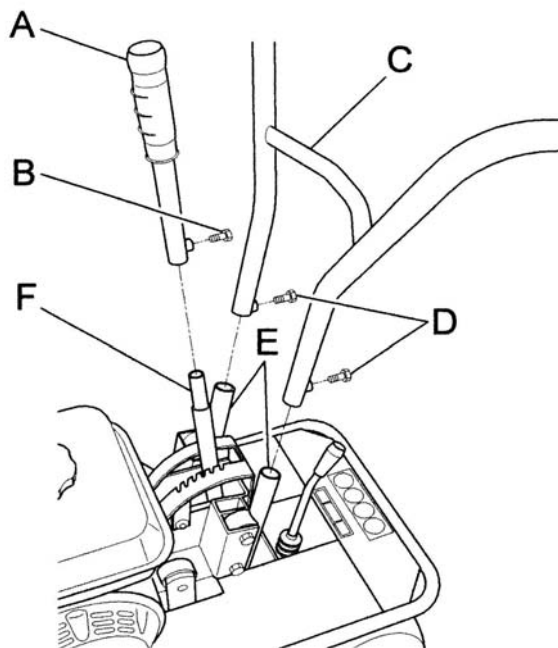

Figure 3
- Lift the handlebar (Fig. 3 Rif. C) and insert it in the supports shown in Fig. 3 rif. E. Select the required cutting height and secure the setting using the screws provided (Fig. 3 ref. D).
- Fit the end part of the cutting height adjustment lever (Fig. 3 Ref. A) into its relative support (Fig. 3 ref. F) and secure using the screw provided (Fig. 3 Ref.B).
During operation the lawn and turf are cut into strips. Should the cutter's wheels skid during use it is advisable to adjust the cutting height using the special lever (Fig. 3, ref.A). If this operation does not prevent this occurrence check the state of the terrain. If it is too dry it should be wetted so that the blade encounters a slight resistance, thus making cutting operations easier.